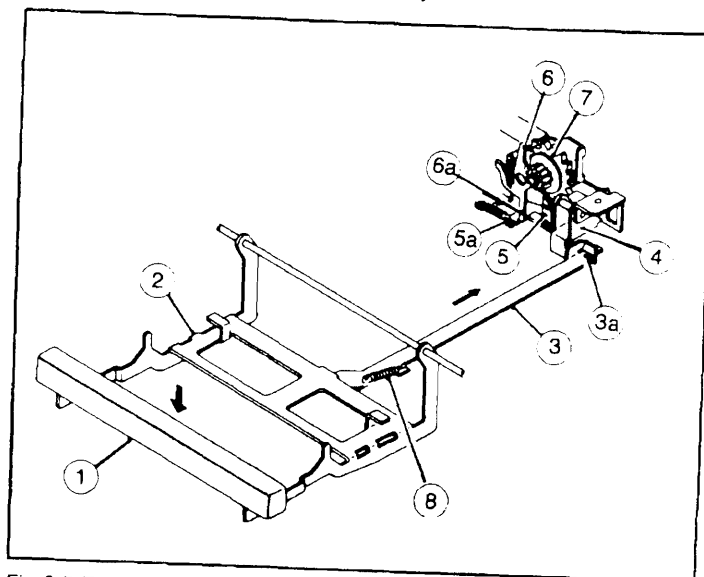

Fig. 2-5. This is the spacing mechanism of the Olympia Model B-12 (courtesy of OLYMPIA USA INC.).
To look at yet another representative space mechanism, refer to Fig. 2-5. When the space key (1) is depressed, the space link (3a) pushes a connection (4), which in turn pushes the loose dog (5a), which pushes the fixed dog (6a). This removes the fixed dog (6) from the escapement wheel (7), and the carriage moves one space. Finally, when the space key (1) is no longer depressed by the operator, it—together with the space link (3)—is returned to home position by the tension of spring (8).